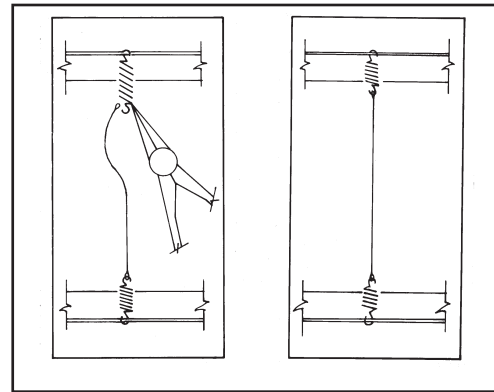

Figure 2
3. Loop one end of the new wire over the bottom spring, pull down top spring with pliers and loop the top end of the wire over the spring hook. Refer to Figure 2.